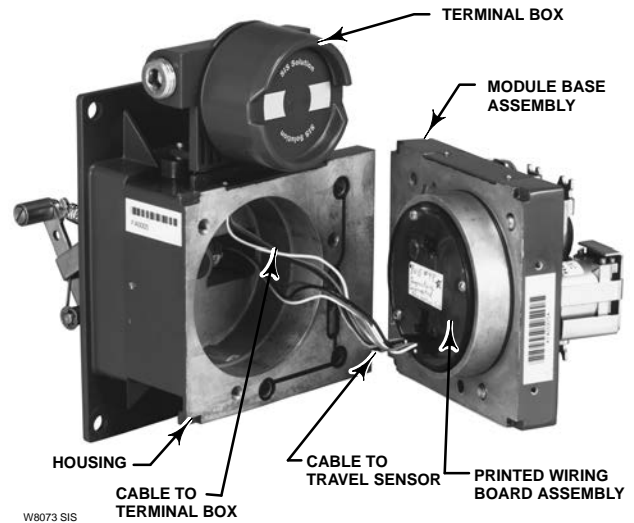

Figure 7-1. Printed Wiring Board Cable Connections
4. Pull the module base straight out of the housing (key 1). Once clear of the housing, swing the module base to the side of the housing to gain access to the cable assemblies.
5. The digital valve controller has two cable assemblies, shown in figure 7-1, which connect the module base, via the printed wiring board assembly, to the travel sensor and the terminal box. Disconnect these cable assemblies from the printed wiring board assembly on the back of the module base.